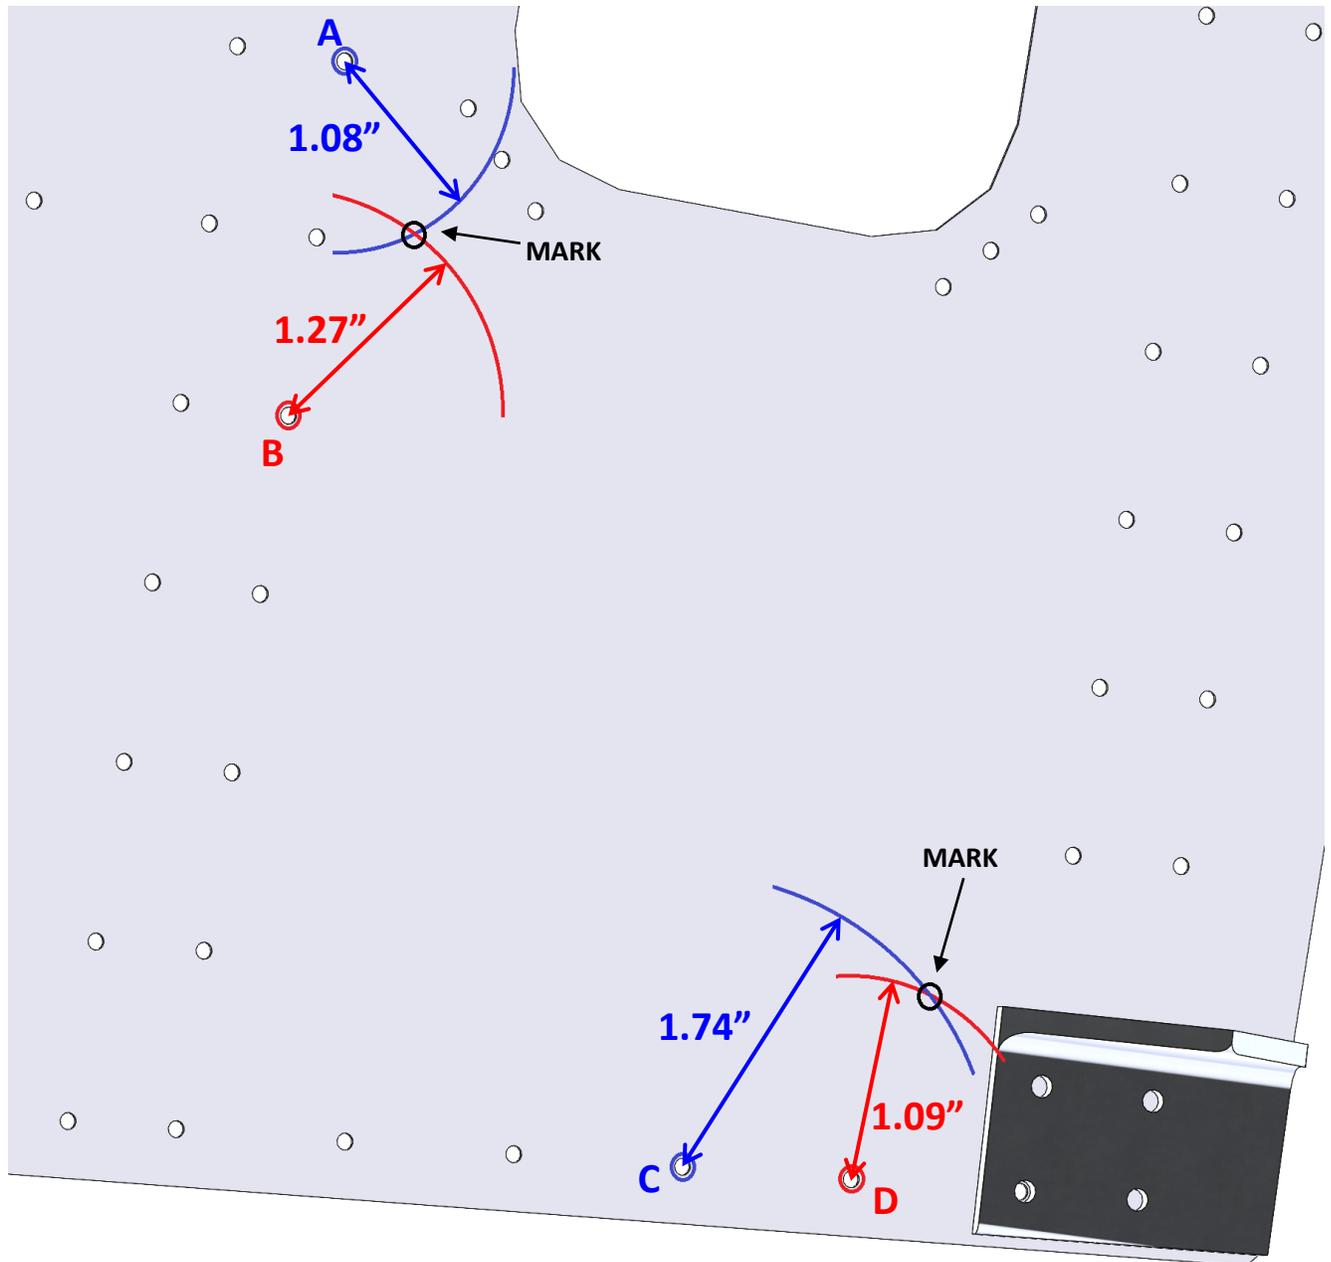
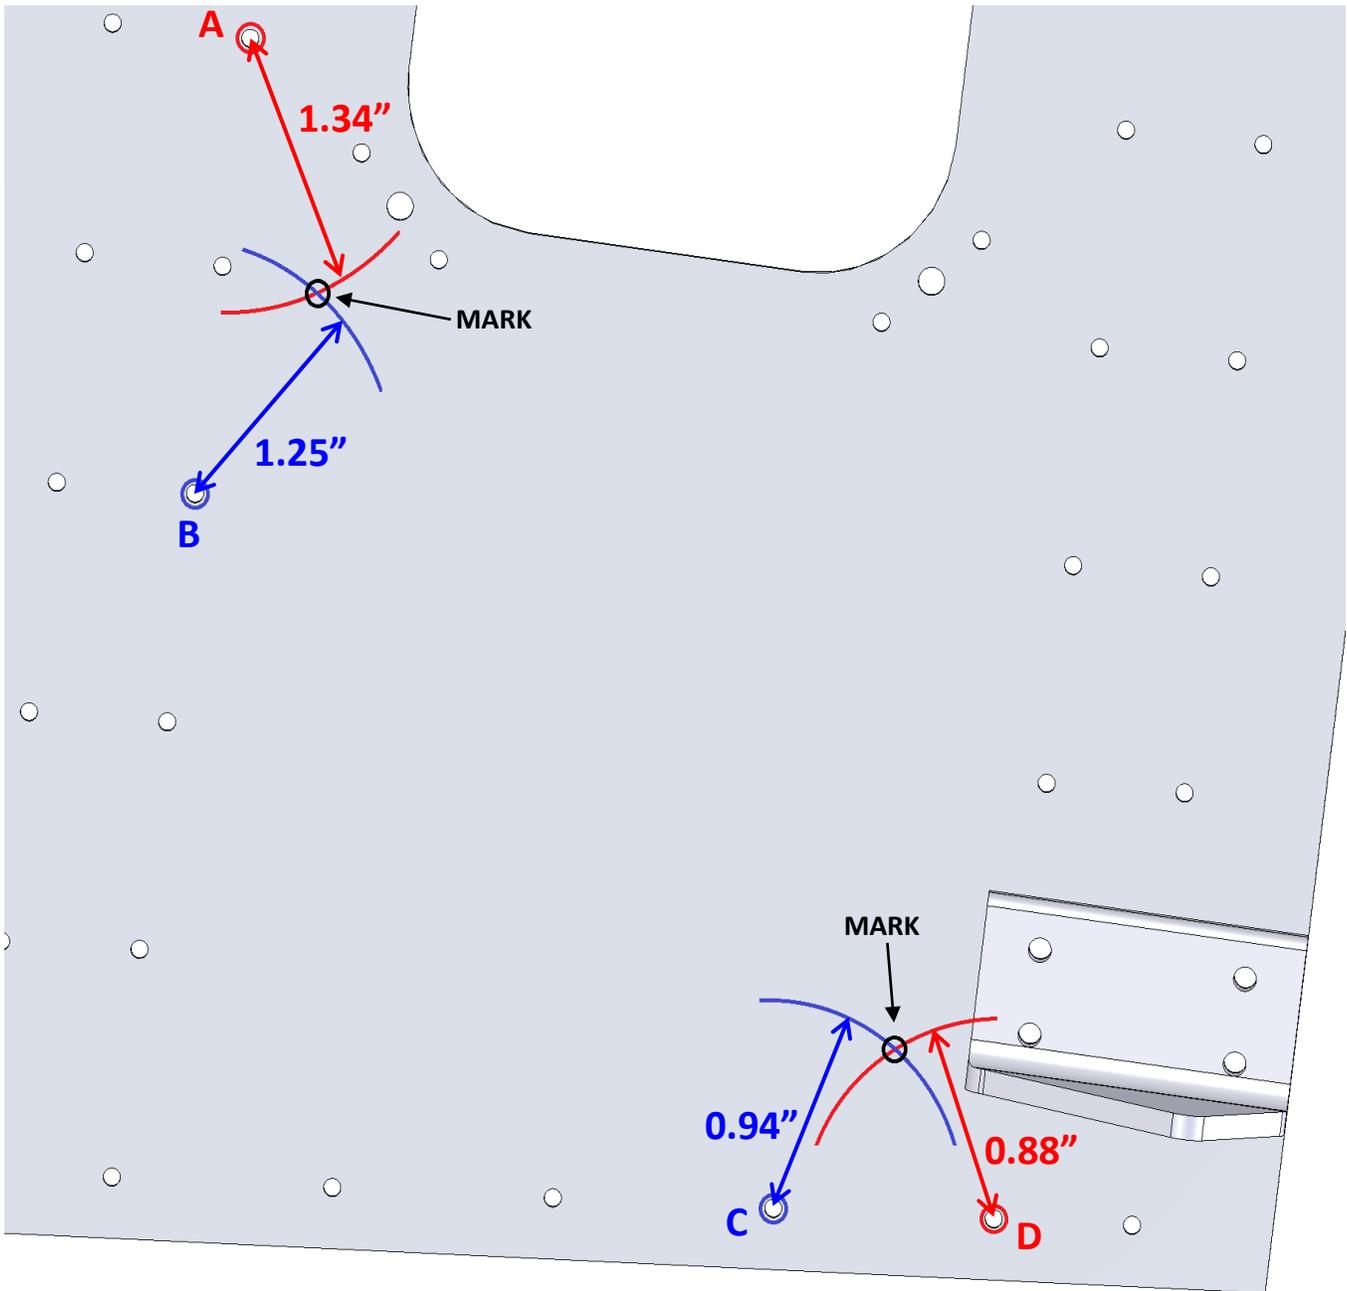

FIGURE 2: Locations for two end holes of F-00773A stiffener on the RV-7 and RV-9, left side.
FIGURE 3: Locations for two end holes of F-00773A stiffener on the RV-8, left side.
Step 1: Identify rivets "A" through "D" as designated in Figure 2 (RV-7 and RV-9) or in Figure 3 (RV-8).
Mark two points on the external surface of the tailcone skin, at the locations specified in Figure 2 or 3. These will mark the locations for the end rivets on the F-00773A stiffener.